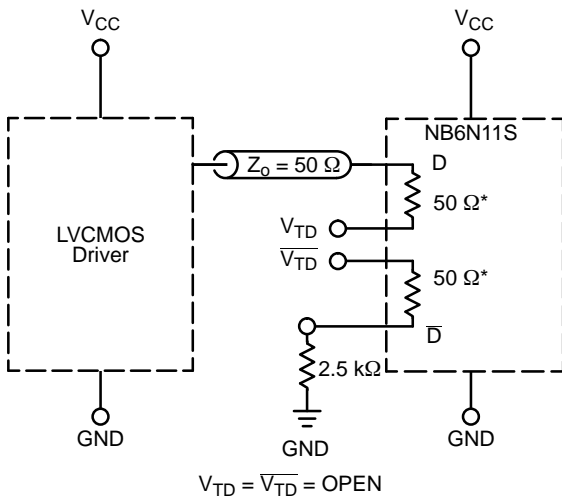

Figure 15. LVC MOS Interface
**DIFFERENTIAL INPUTS DRIVEN SINGLE-ENDED** (Figures 15, 16, 20, and 22)